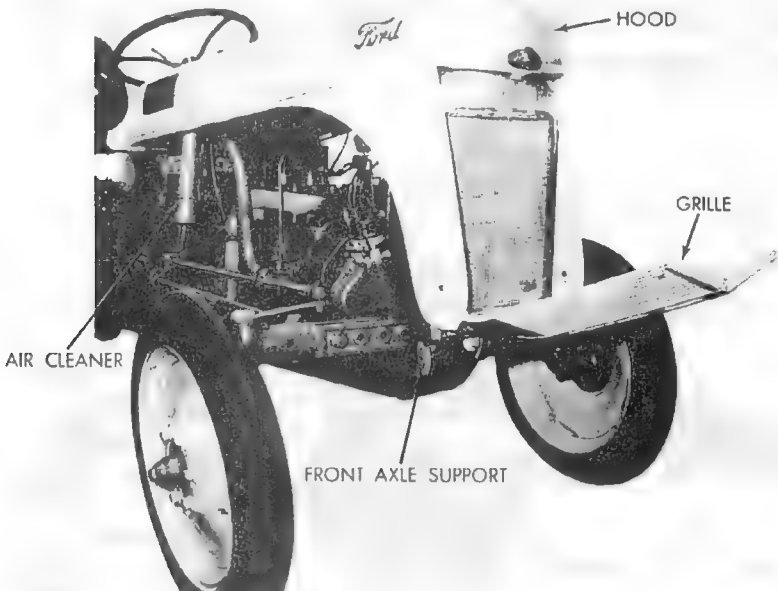

Fig. 37—Hood Removal
a. Remove Hood. Shut off the fuel, and disconnect the fuel line to the carburetor. Remove the four cap screws which secure the hood to the instrument panel. Remove the cap screws which secure the hood to the front axle support. Remove the intake air screen and connection from the hood. Remove the hood as shown in fig. 37.